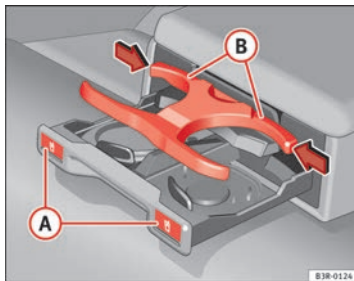

Fig. 130 Drink holder in the rear armrest
- Press the symbol **A** ⇒ Fig. 130.